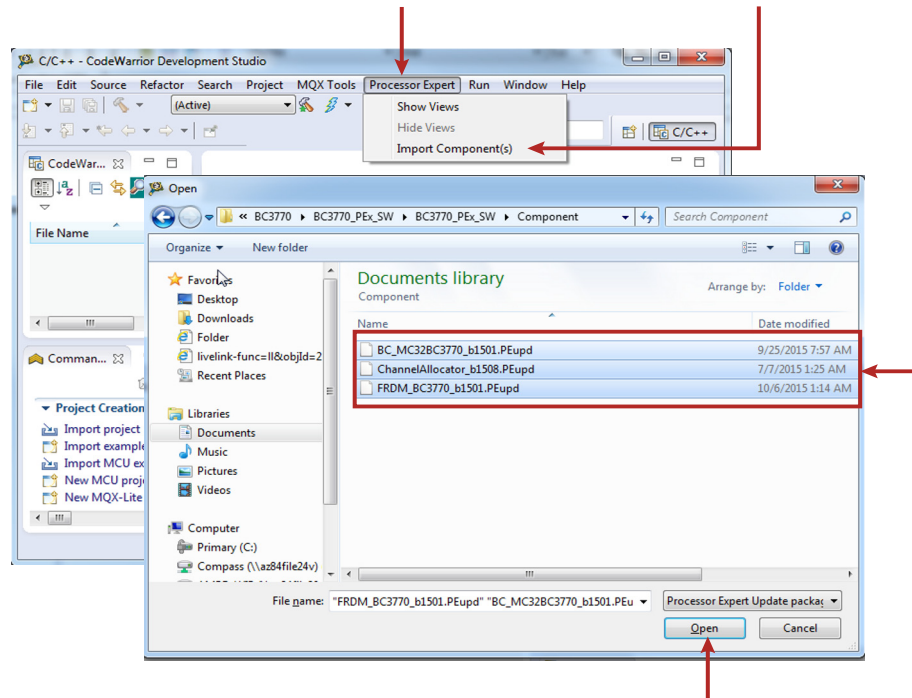

Figure 18. Import the BC3770 components
2. In the pop-up window, locate the component file (.PEupd) in the Components and Example Projects folder BC3770_PEx_SW\Component. Select **BC_MC32BC3770_bxxxx.PEupd**, **FRDM_BC3770_bxxxx.PEupd**, and **ChannelAllocator_bxxxx.PEupd** files then click **Open** (see Figure 18).